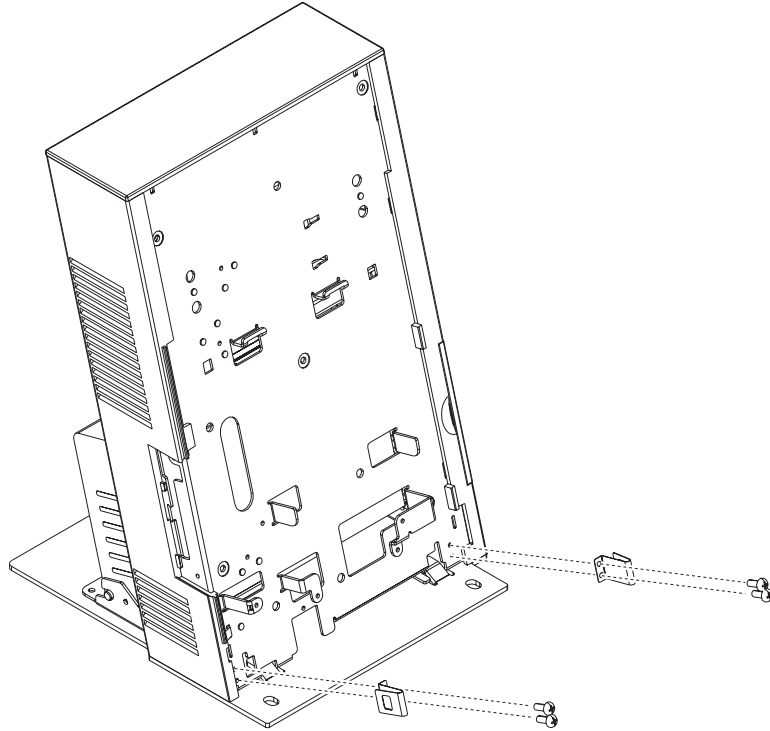

Figure 61. Removing HDD cover clips
2. For each clip, remove the two screws. See Figure 61 on page 75.